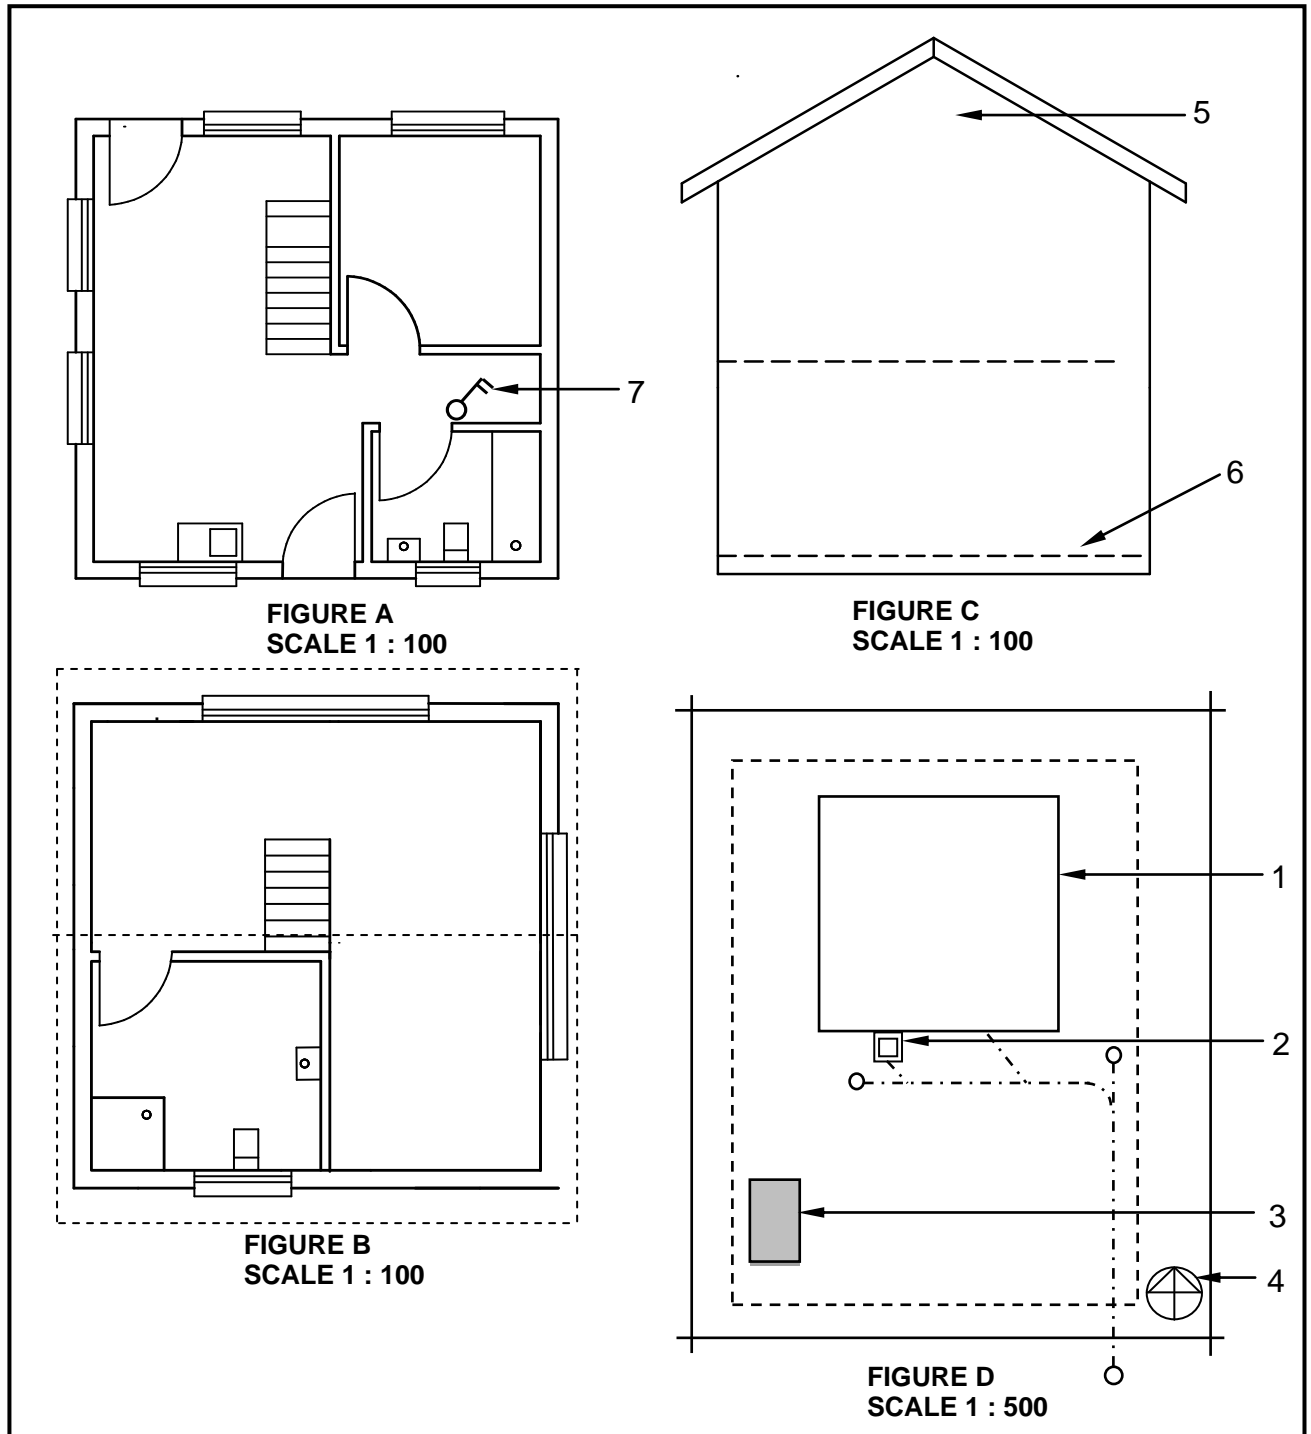

FIGURE 2.1
2.1 FIGURE 2.1 below shows different drawings that appear on a building plan. Analyse the drawings and complete the table on ANSWER SHEET 2.1.